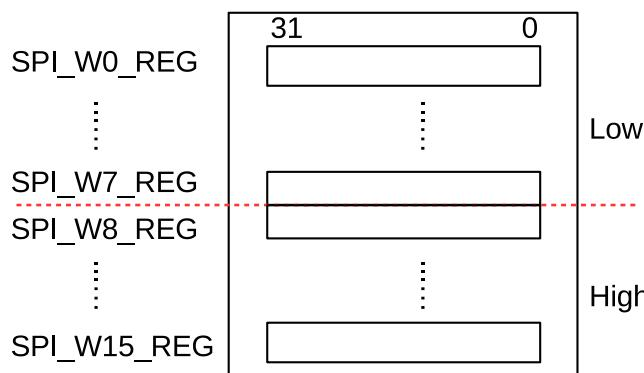

Figure 30-2. Data Buffer Used in CPU-Controlled Transfer
GP-SPI provides 16 x 32-bit data buffers, i.e., `SPI_W0_REG ~ SPI_W15_REG`, see Figure 30-2. CPU-controlled transfer indicates the transfer, in which the data to send is from GP-SPI data buffer and the received data is stored to GP-SPI data buffer. In such transfer, every single transaction needs to be triggered by the CPU, after its related registers are configured. For such reason, the CPU-controlled transfer is always single transfers (consisting of only one transaction). CPU-controlled transfer supports full-duplex communication and half-duplex communication.
- **SPI Buffer:** `SPI_W0_REG ~ SPI_W15_REG`, see Figure 30-2. The data transferred in CPU-controlled mode is prepared in this buffer.